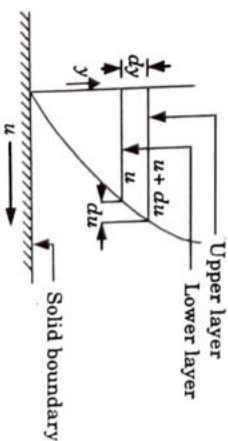

Fig. 3.2.1. Velocity variation near a solid boundary.
1. From Fig. 3.2.1, let two layers of fluid at a distance ' dy ' apart, move one over the other at different velocities u and $u + du$.